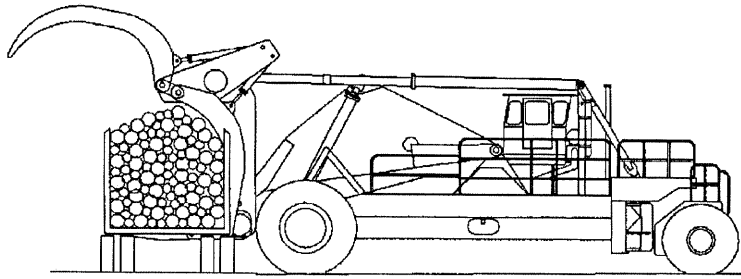

Fig 4-3
2. Move in until the back of the carriage against the load. Partially clamp the load to prevent logs from rolling off. See Fig. 4-3.